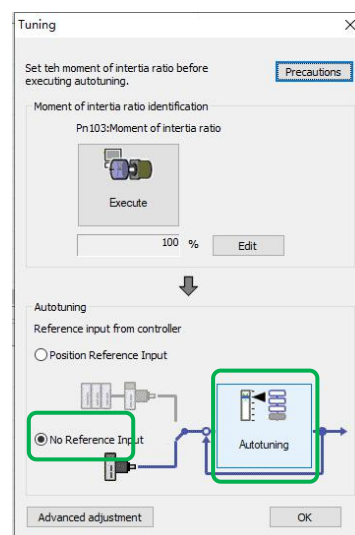

Figure 7
4. Enter the [Tuning Axis] window (Figure 7)